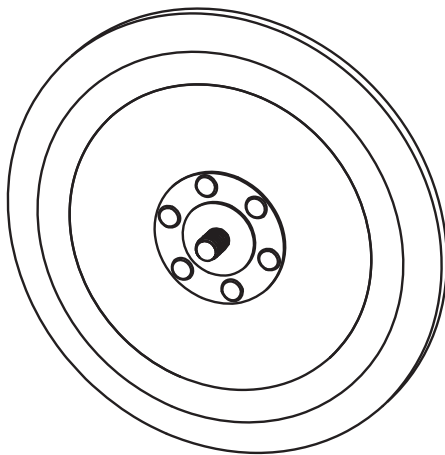

Figure 1
1. ASSEMBLING OR CHANGING THE BACKING PAD (SEE FIG. 1, 2)